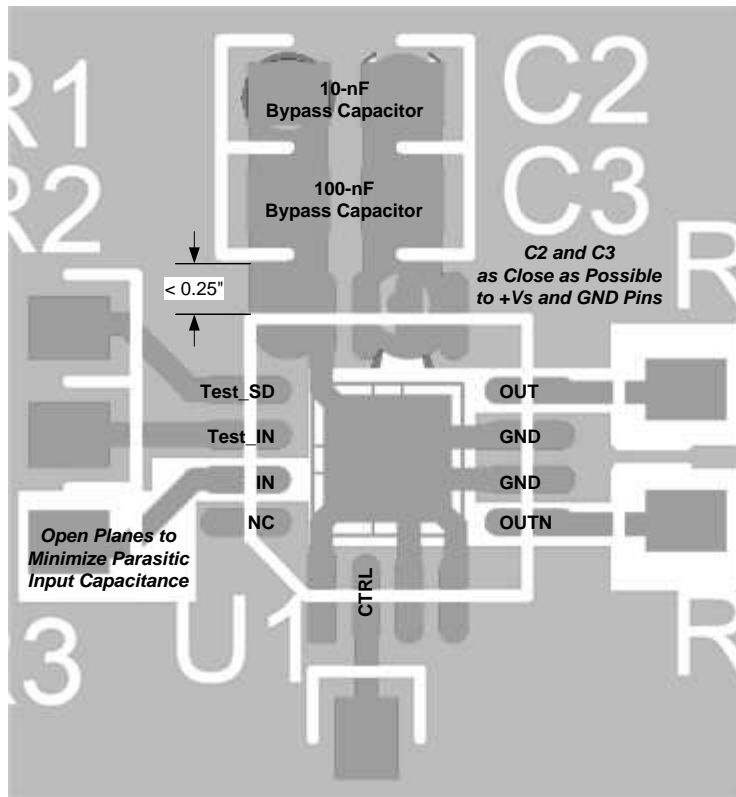

图 48. Layout Example
- Minimize the distance** (< 0.25") from the power-supply pins to high-frequency 0.1- μ F decoupling capacitors, as shown in Figure 48. At the device pins, make sure that the ground and power-plane layout are not in close proximity to the signal I/O pins. Avoid narrow power and ground traces to minimize inductance between the pins and decoupling capacitors. Always decouple the power-supply connections with these capacitors. An optional supply decoupling capacitor (0.1 μ F) across the two power supplies (for bipolar operation) improves second-harmonic distortion performance. Use larger (2.2 μ F to 6.8 μ F) decoupling capacitors, effective at lower frequencies, on the main supply pins. These capacitors can be placed somewhat farther from the device and can be shared among several devices in the same area of the PC board.